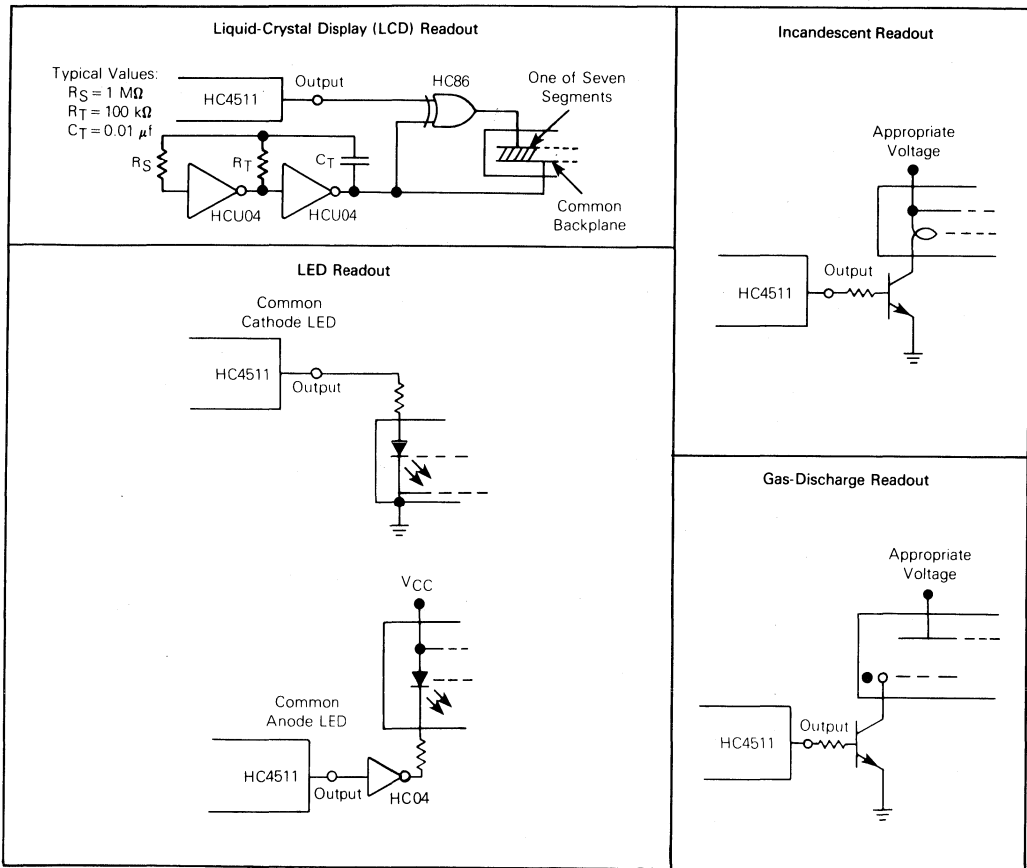

Figure 7. Connections to Various Display Readouts
**a, b, c, d, e, f, g (PINS 13, 12, 11, 10, 9, 15, 14)** — Decoded, buffered seven-segment display-driver outputs. These outputs, unlike the MC14511, have CMOS drivers, which produce typical CMOS output voltage levels. These outputs are connected to various displays as shown in Figure 7.